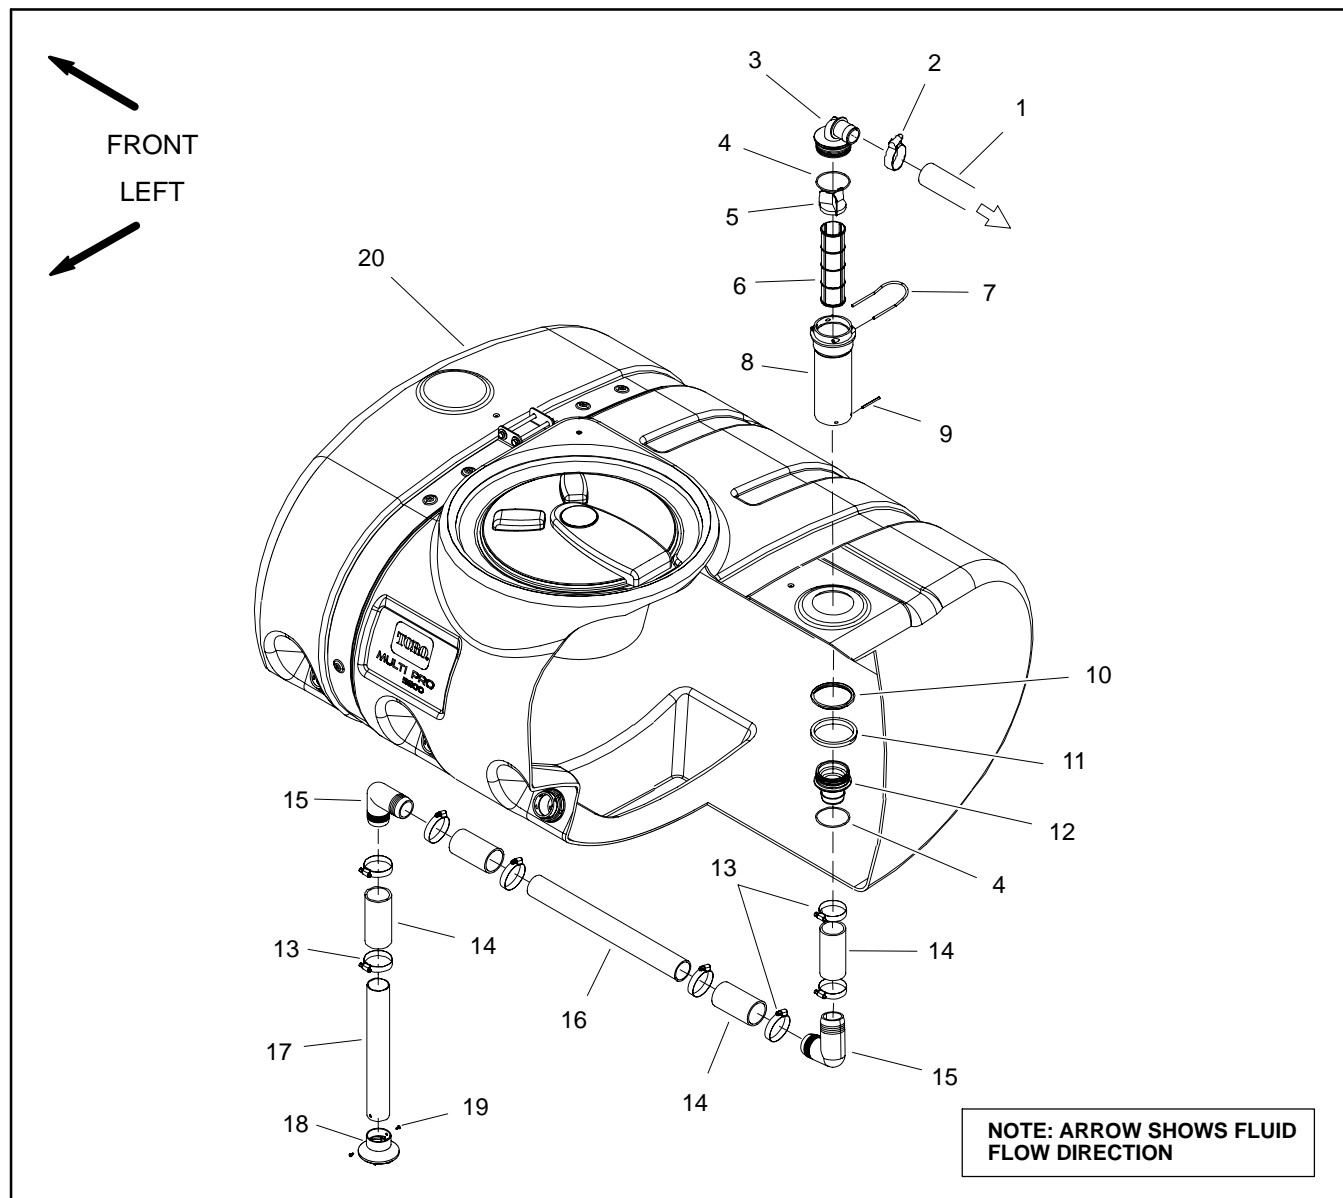

Figure 24
Removal (Fig. 24)
Assembly (Fig. 24)
1. Assemble and install suction tube assembly using Figure 24 as a guide. Replace all removed O-rings and gaskets. Make sure that clearance exists between suction tube foot and bottom of tank after assembly.